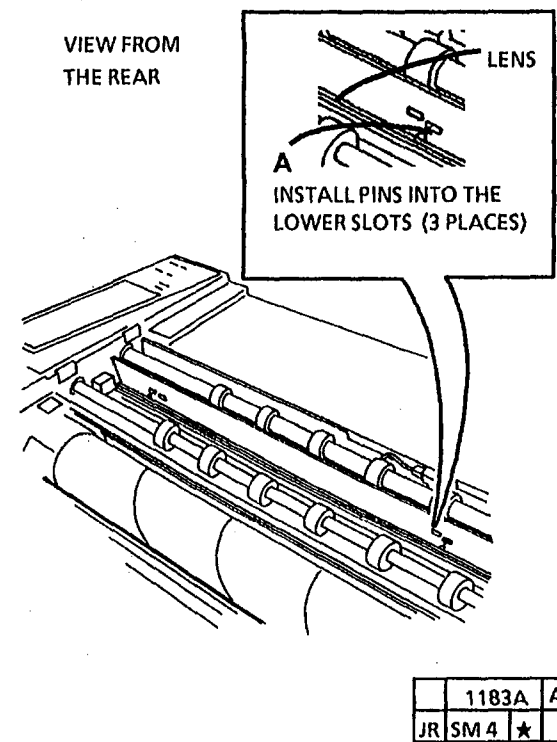

Figure 2. The Correct Lens Position
1. (Figure 2): Observe correct lens position.